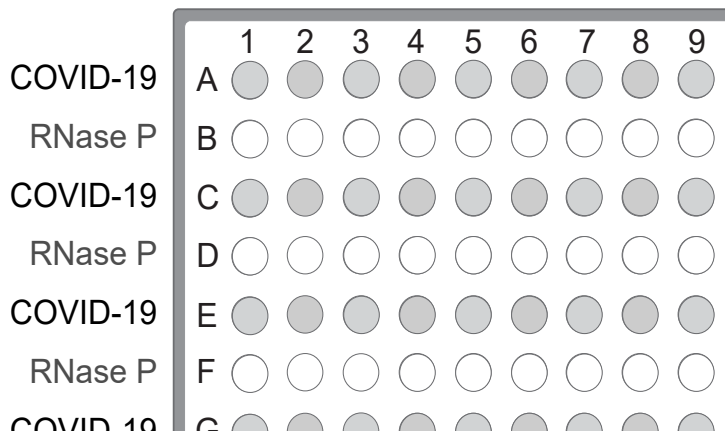

Figure 3 Assays in alternating plate rows
- a. Starting with row A, pipette 10.0 µL per well of the COVID-19 Reaction Mix into every other row of a MicroAmp™ Optical 384-Well Reaction Plate with Barcode. See Figure 3 on page 55. Plates without a barcode can be used (see “Required materials not supplied” on page 11).